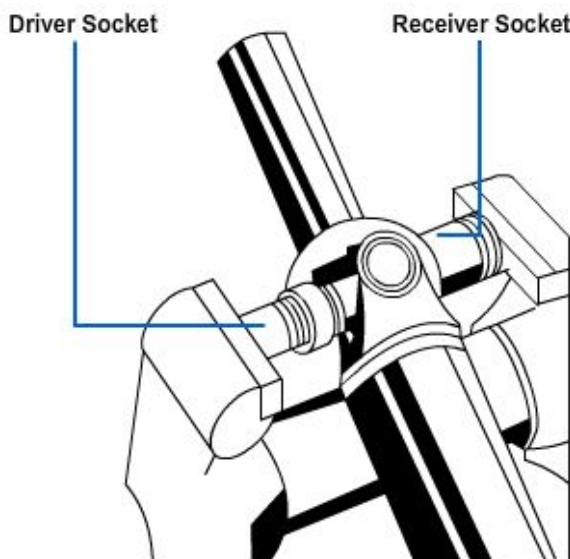

Figure 11-9 — Universal joint disassembly.
8. Use two sockets—one larger than the bearing cap and one smaller than the bearing cap. Place the smaller socket on the bearing cap of the universal joint (*Figure 11-9*). The larger socket is to be placed over the outside diameter of the bearing cap on the opposite side of the joint.